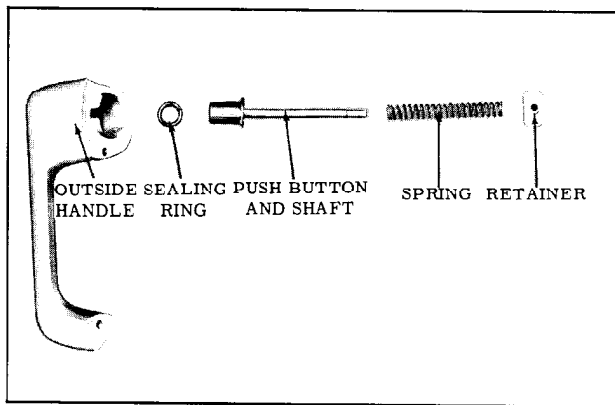

Fig. 15-24 Front Door Outside Handle Disassembled
2. Depress retainer slightly and turn retainer one-quarter turn. Remove retainer, spring, push button and shaft and sealing ring from handle. (Fig. 15-24)